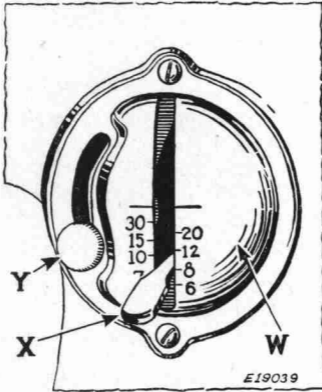
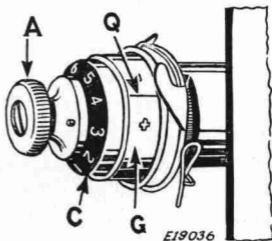

FIG. 17. SHOWING LEVER FOR REVERSING DIRECTION OF FEED AND REGULATING LENGTH OF STITCH
FIG. 21. NEEDLE THREAD TENSION
Adjust the stitch regulator **X**, **Fig. 17** to make the longest stitch and loosen the needle thread tension **A**, **Fig. 21**, so that the stitches may be easily removed.
To feed the material **from you**, push down the stitch regulating lever **X**, **Fig. 17** as far as it will go.
The numerals "0 to 9" on the dial C, Fig. 21 indicate the different degrees of tension that can be obtained. The numbers do not denote the size of thread or ounces of tension.
**NOTE:** The needle thread tension, Figs. 21 to 23 inclusive, is correctly adjusted at the factory to produce the complete range of tensions with one revolution of the thumb nut A. There should be no necessity for removing or taking this tension apart. However, if for any reason, it becomes necessary to remove the tension, proceed as follows: